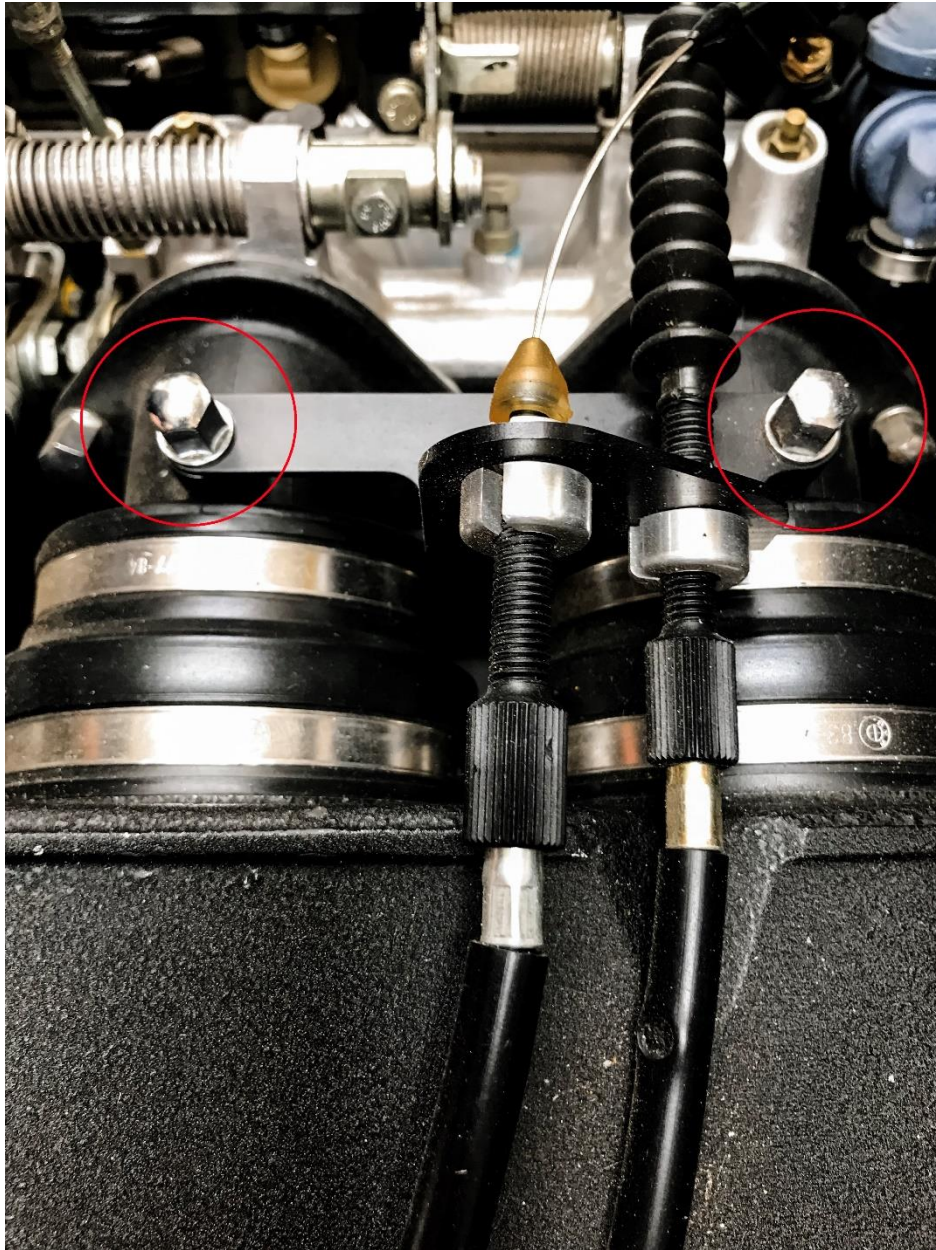

Figure 17
15. On the S38B36, Remove the two nuts with your 10mm wrench that mount the throttle cable bracket to the velocity stacks and set the throttle cable bracket and cables on fire wall. See Figures 17 & 18.